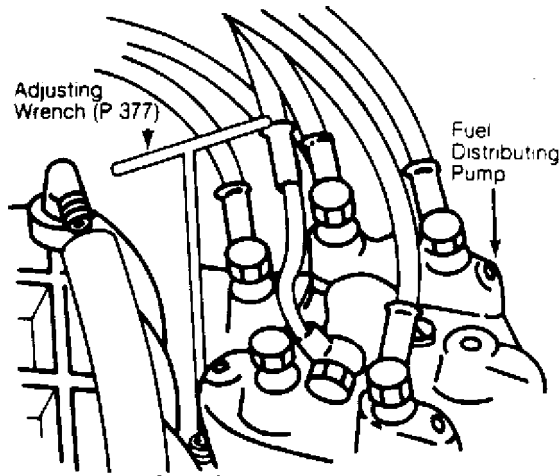

Fig. 3: Adjusting Idle Speed & Mixture
7) Install a 1/8" sheet metal screw and remove plug using pliers. Start engine and run at idle. Adjust CO level to .6-1.0% (adjusting value) by turning adjustment screw with Adjusting Wrench (P 377). See Fig. 3. DO NOT accelerate engine with adjusting tool in place or push down on tool. After each adjustment, remove adjusting tool and briefly accelerate engine before measuring current reading.